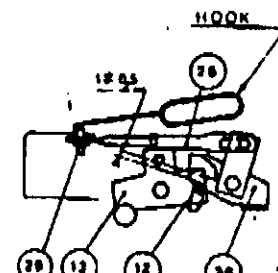
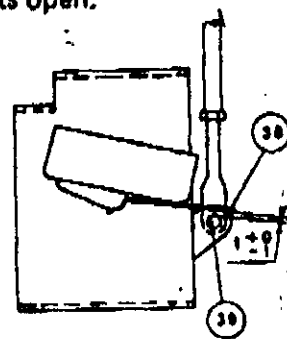

Fig. 17
Fig. 21
A. Tripping (Fig. 17 and 18)
- 1) Adjustment. Place breaker in open position and unscrew adjusting reset screw (30). With release bar in latched on position resulting from breaker being in open position, adjust linkage (26) to provide 1 ± 0.5 mm (0.039 ± 0.020 inch) between lever (28) and lug (12) of
- A. Limit switch for Latch Indication. Place bar in latched position as shown in Fig. 17 and 18. In this position, the limit switch contacts will be closed. Deform strip (38) Fig. 21 to provide maximum gap setting of 1 mm (0.039 inch) between strip (38) and lug (39). NOTE: This adjustment must be performed without applying voltage to the undervoltage holding coil. Following adjustment, operate voltage release device permitting release bar to unlatch. Inspect limit switch to see the contacts open.